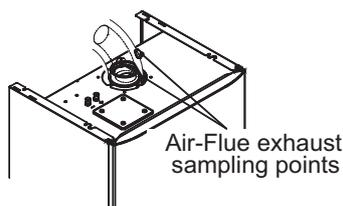

Figure 15.12
- Remove the plugs indicated (Fig. 15.12).